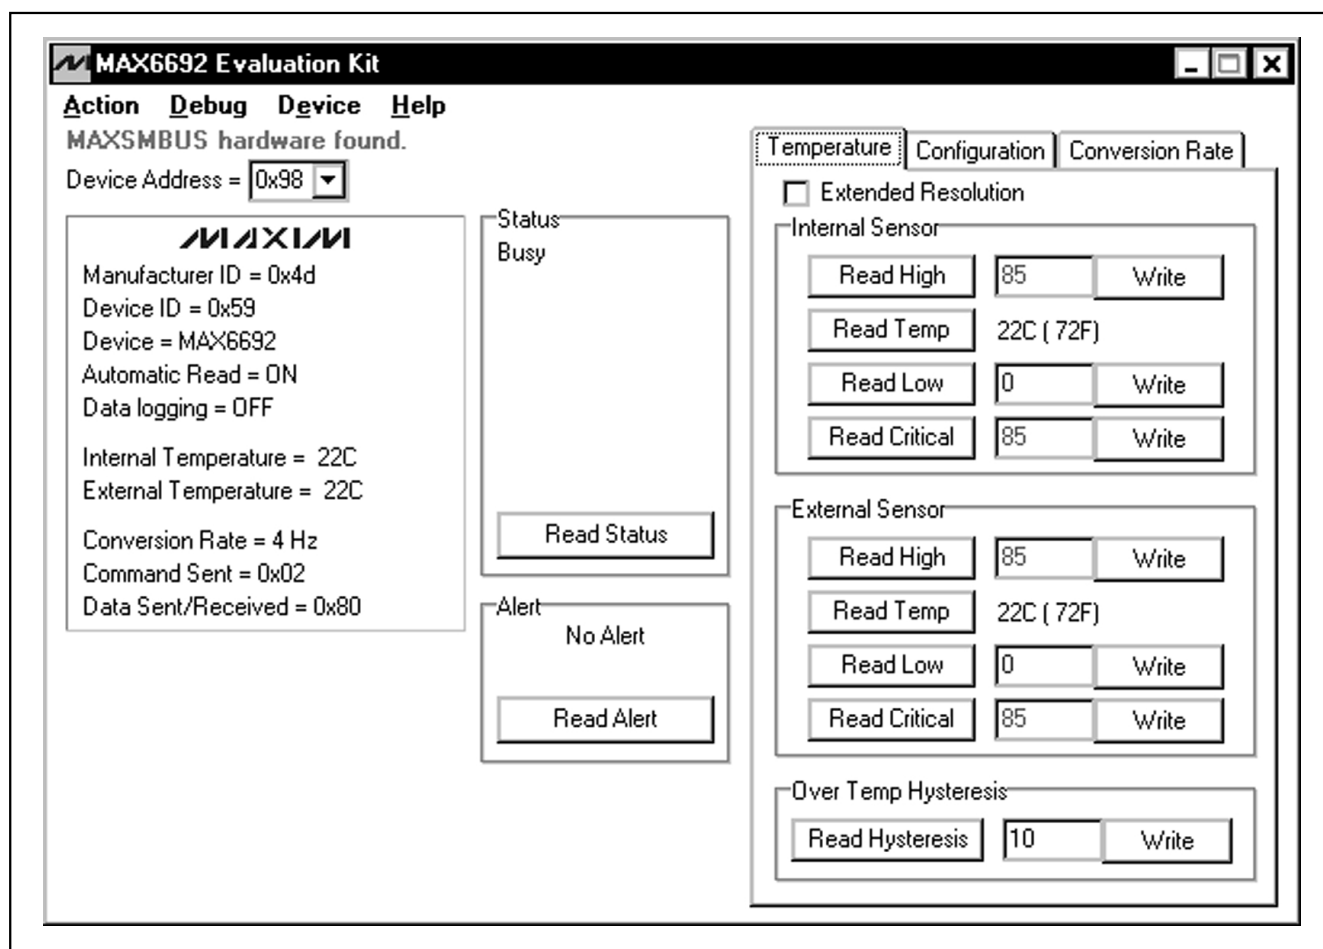

Figure 1. Main Window for the MAX6692 EV Kit Software
- 8) Wait until the program automatically detects the address of the MAX6648/MAX6649/MAX6692 and displays the user-interface panel (Figure 1).
- 9) If using the MAX6648 or MAX6649, select the appropriate device from the **Device** menu (Figure 1).
The MAX6648/MAX6649/MAX6692 monitors its own temperature and the temperature of an external diode. Both temperature measurements are capable of either 8-bit or 11-bit (extended) resolution; 8-bit resolution results in temperature resolution of 1°C/LSB. Extended resolution results in temperature resolution of 0.125°C/LSB. Enable extended resolution by selecting the **Extended Resolution** checkbox (Figure 1).
Read the temperatures by clicking on the **Read Temp** buttons (Figure 1). The temperature is shown to the right of the buttons.
Read the high, low, and critical limits by clicking on the **Read High**, **Read Low**, or **Read Critical** buttons, respectively (Figure 1). The value (in Celsius) is shown to the right of the button. Change the high, low, and critical temperature limits by entering the value (in Celsius) into the appropriate edit field. Pressing Enter, after typing in the new value, updates the internal register.
Read the hysteresis register by clicking on the **Read Hysteresis** button (Figure 1). The value (in Celsius) is shown to the right of the button.